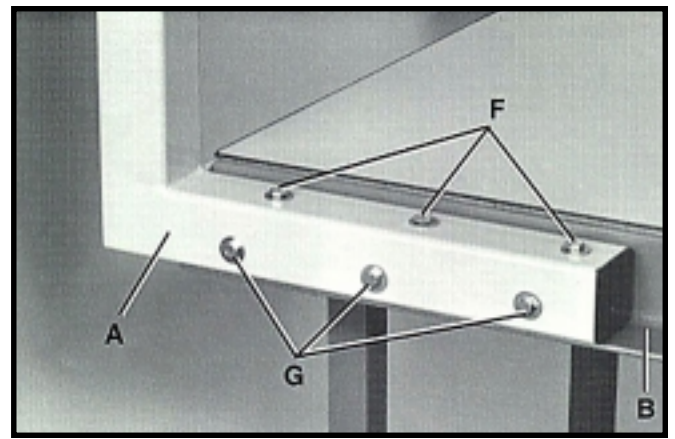

Fig. 7
4. Fasten the mounting bracket (A) Fig. 7, to the back rail (B) using the three 2-3/4" long hex head screws (F); three 3-3/4" long hex head screws (G); twelve 1/4" flat washers; and six 1/4-20 hex nuts.